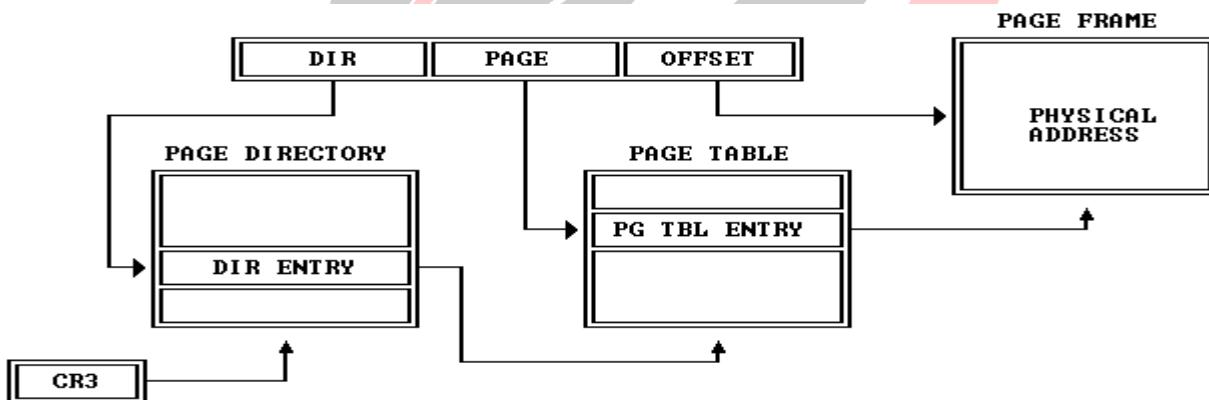

Figure 4.3: Page Translation.
6. Figure 4.3 shows page translation.